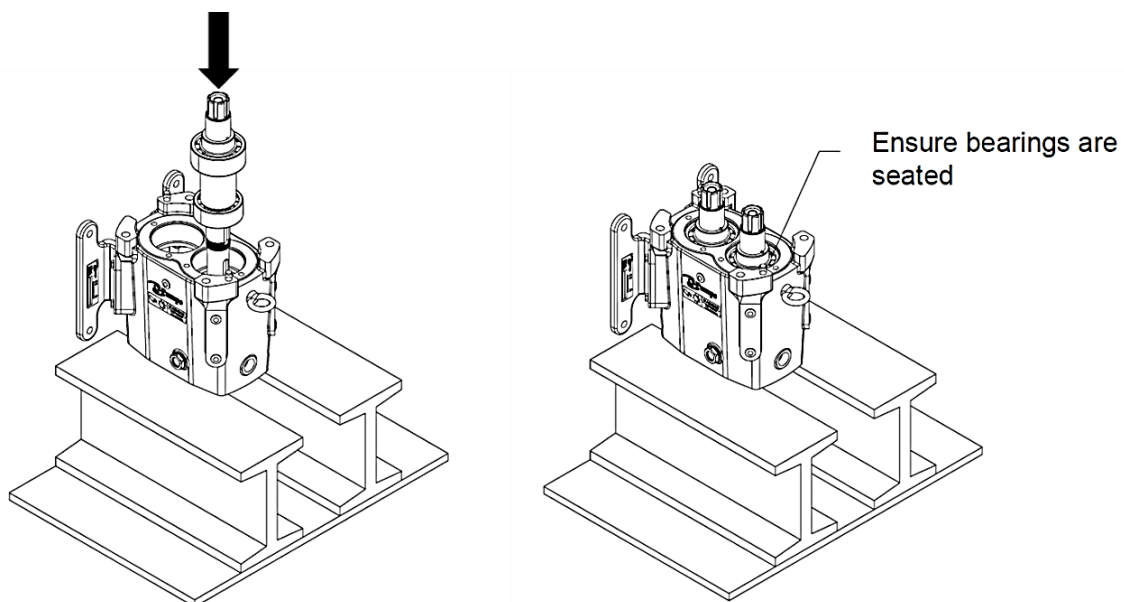

Figure 51: Pressing Rear Bearing onto Shaft
3) Set the gear case on a press with the fluid end side facing up. Apply lubricant to the outside of the bearings. Place shaft assembly (one shaft at a time) in the gear case with the rotor end facing up. Making sure that the drive and the short shafts are in the correct bores, press the shafts by the bearings outer race into the gear case until bearings are fully seated (Figure 51).